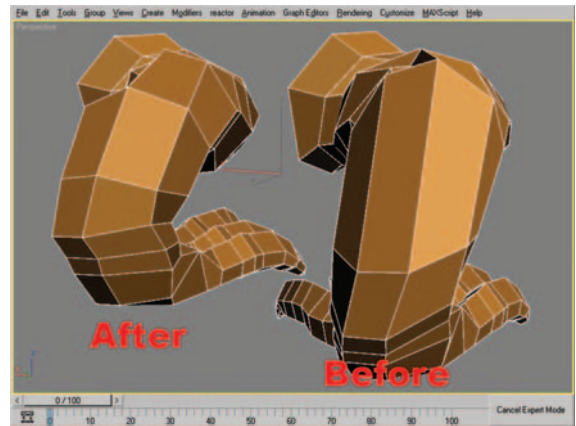

Figure 9.82 Edges and verts manipulated to achieve end result (left), viewed from rear of leg.
45. Using the Move tool with and without Edge Constraints active, move and rotate edges and vertices to create a more even spacing to the lower leg area (Figure 9.82).